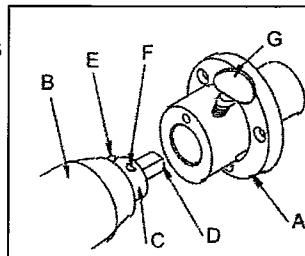

Figure 5
The range of attachments which can be operated from the attachment hub are listed below. When using an attachment, please lubricate the **(D) DRIVE END** by using a food quality grease or oil. Please refer to **FIGURE 5** to assemble an attachment.